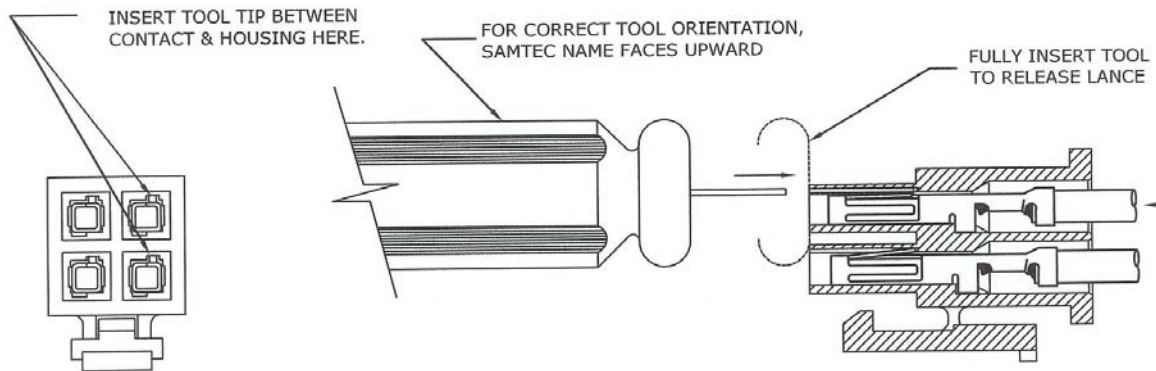

FIGURE 2
The Power Mate contact has a retaining lance that can be released through an access cavity located in the front of the housing as shown in Figure 2. The Extraction Tool is inserted into the cavity to depress the lance the correct amount for contact removal.
2. From the mating side of the housing, fully insert the Extraction Tool into the lance cavity with the Samtec name facing upward as shown in Figure 2. The lance cavity is located in the upper right corner of the contact cavity with the housing latch facing down. This is typical for all rows of contacts.